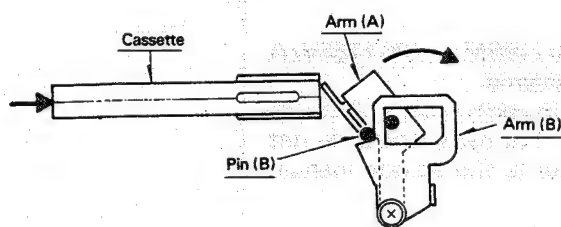

Fig. 1
1. When the Cassette is inserted, Arm (A) moves in the arrowed direction. Pin (B) is for the cassette holder support arm. Arm (B), which is supported by the Pin (B), does not move together with Arm (A) (Fig. 1).